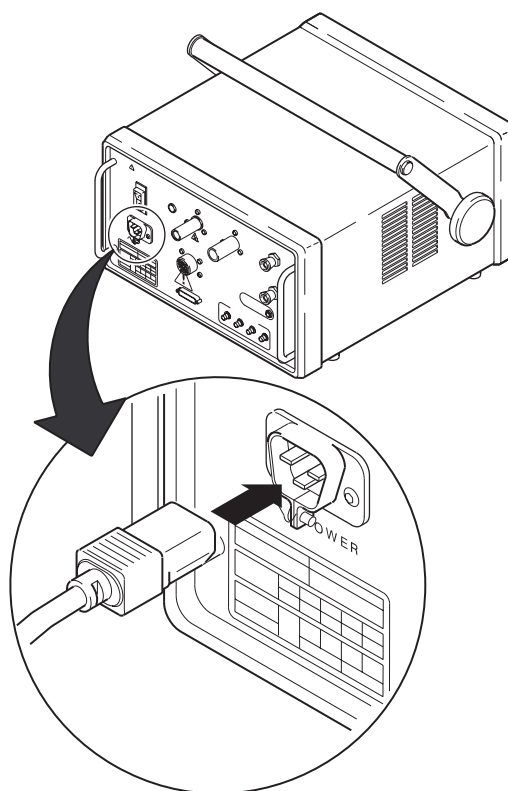

Figure 3 Insert the Power Cord Here
2. Locate the power cord. Insert the cord into the polarized receptacle on the rear of the power supply. See Figure 3.